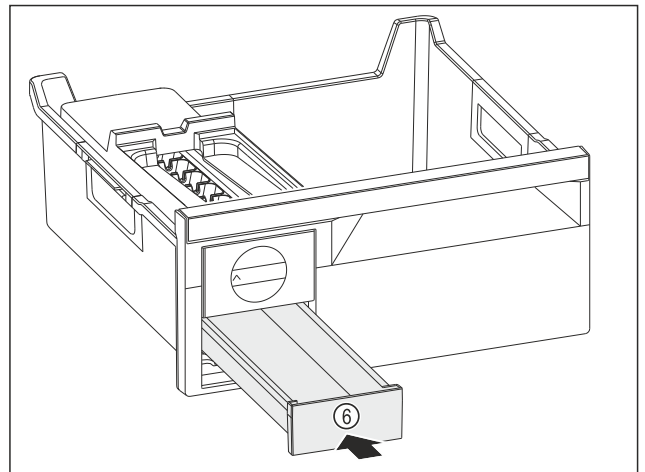

Fig. 153
- ▶ Insert the ice cube drawer Fig. 153 (6).